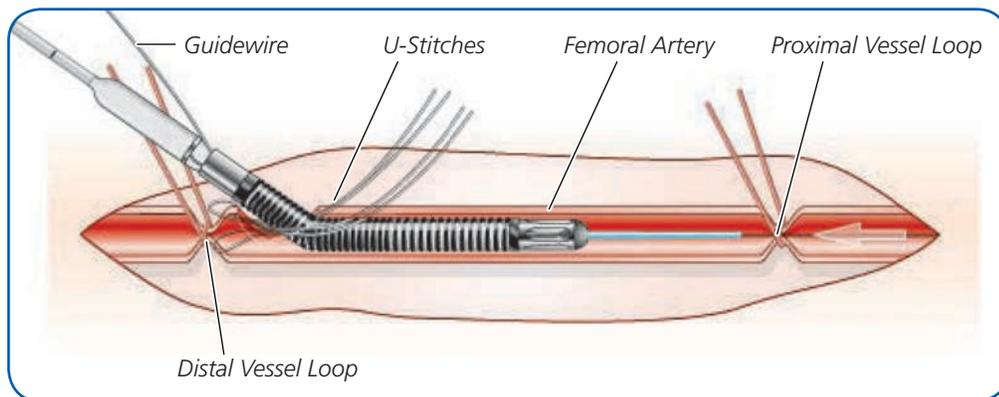

Figure 5.30 Cut-Down Insertion of the Impella® 5.0 Catheter
2. Expose the femoral artery. Wrap vessel loops, one distal and one proximal to the subsequent point of incision, one and a half times around the artery. Make the vessel loops as far apart as possible (see Figure 5.30).
7. Make a transverse incision at the guidewire for the 21 Fr catheter. Use U-stitches (see Figure 5.30) instead of purse string sutures to avoid stenosis of the vessel after explantation.